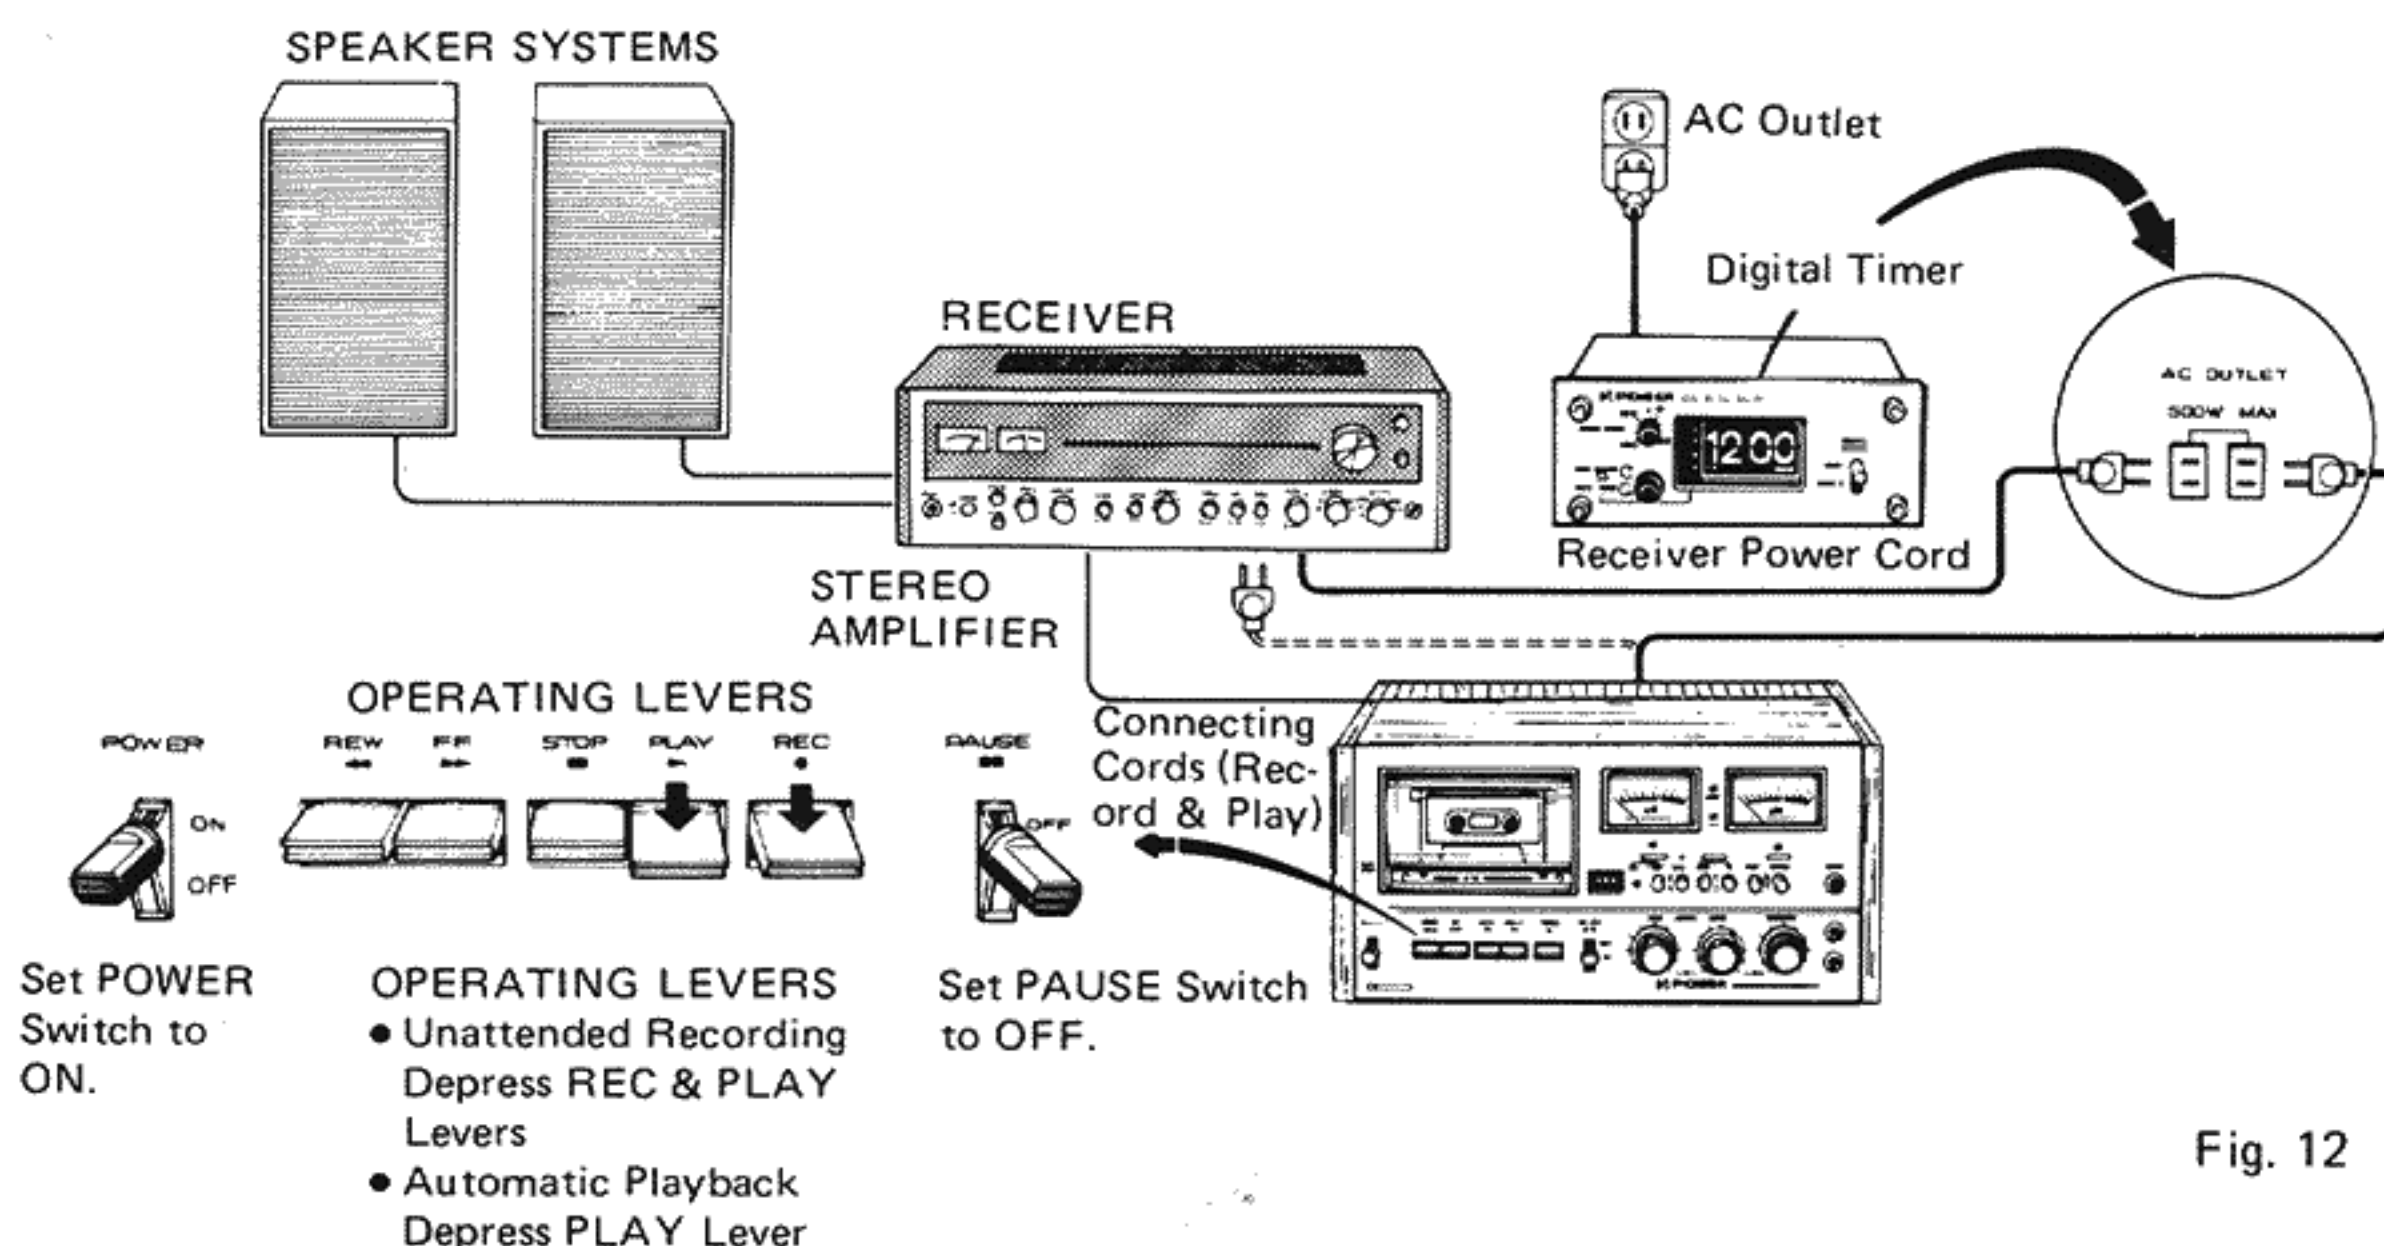

Fig. 12
1. As shown in Fig. 12, plug the CT-F9191 power cord into one of the AC outlets of a digital timer.
1. Connect CT-F9191 power cord to a digital timer as shown in Fig. 12.